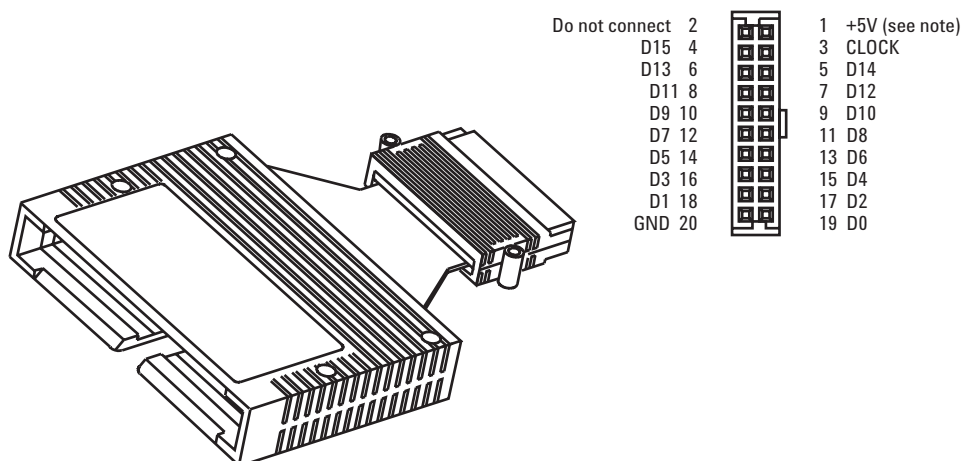

Figure 18. Pinout for 100 kΩ isolation adapter (Agilent part number 01650-63203)
**Note:** The Agilent 01650-63203 saves space by using a common ground (see figure 18). This will impact signal fidelity, especially faster transition times (< 4 - 5 ns).